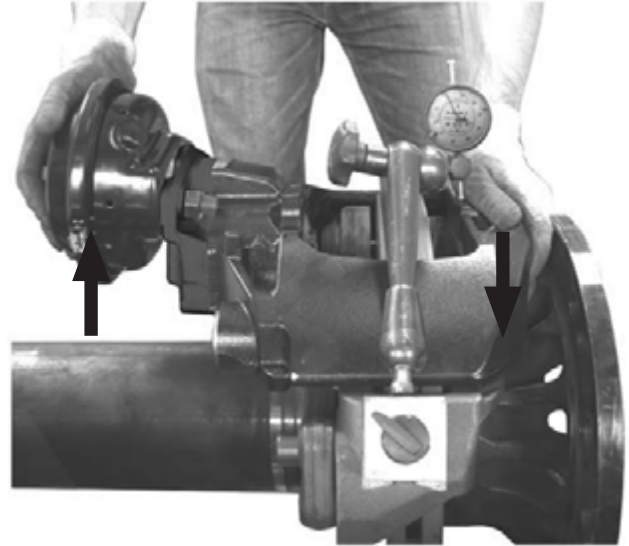

Figure 15: *Tilting brake chamber away from axle*
8. Apply force to **tilt** the brake caliper as far as possible in the opposite direction (Figure 15).